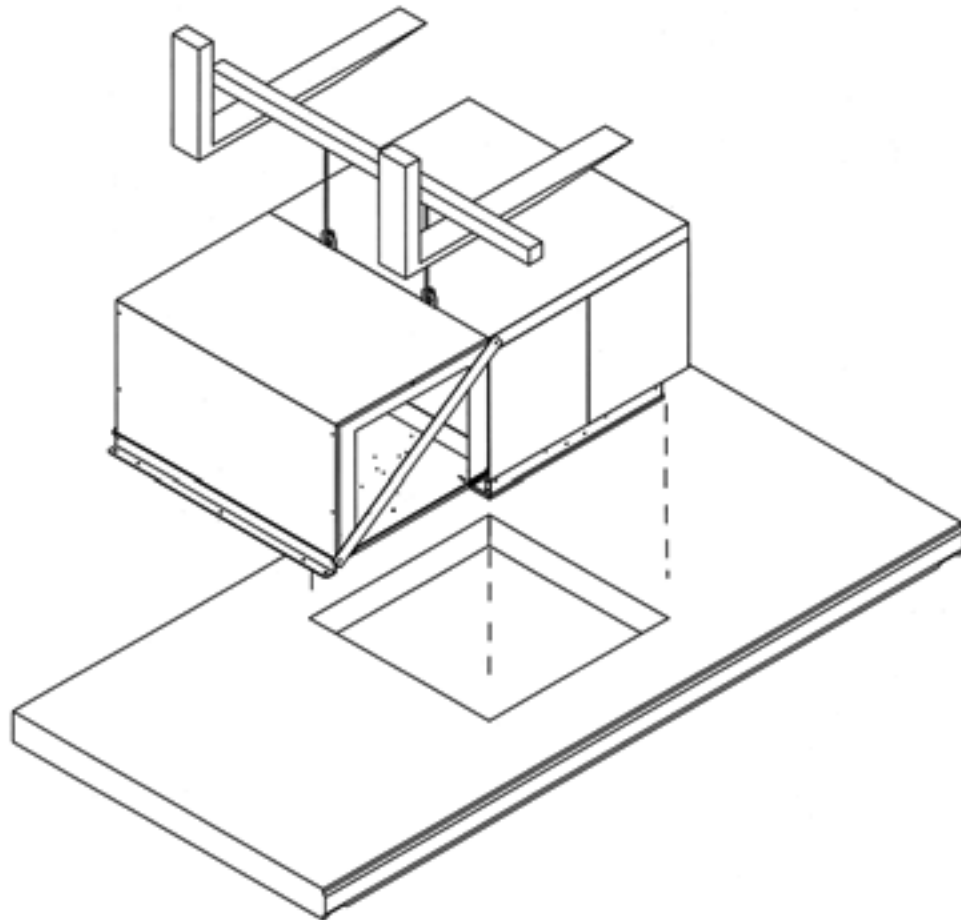

Figure 2: Joining the Top-Mount Refrigeration System to the Ceiling Panel
- Place the ceiling panel to which the refrigeration system is to be connected on 12” high supports (Refer to Fig. 2). The space below the rectangular opening in the panel should be clear and free of obstructions.
- Lift the refrigeration unit from its shipping crate and lower it into position. The refrigeration system may be lifted manually (**CAUTION** – refrigeration system is heavy – use reasonable care when handling) or with mechanical lifting equipment (Refer to Fig. 2).